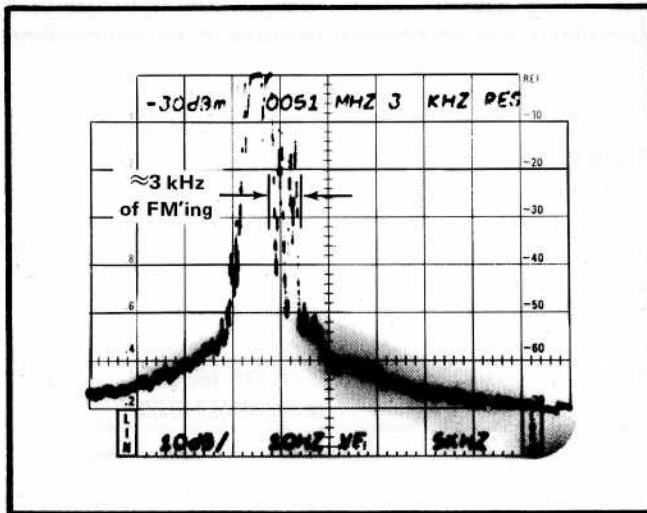

Fig. 3-4. Measuring incidental FM'ing.
c. Check the FM'ing of the displayed marker. FM'ing must not exceed 20 kHz (2.0 div). Fig. 3-4 illustrates one method of measuring FM'ing.